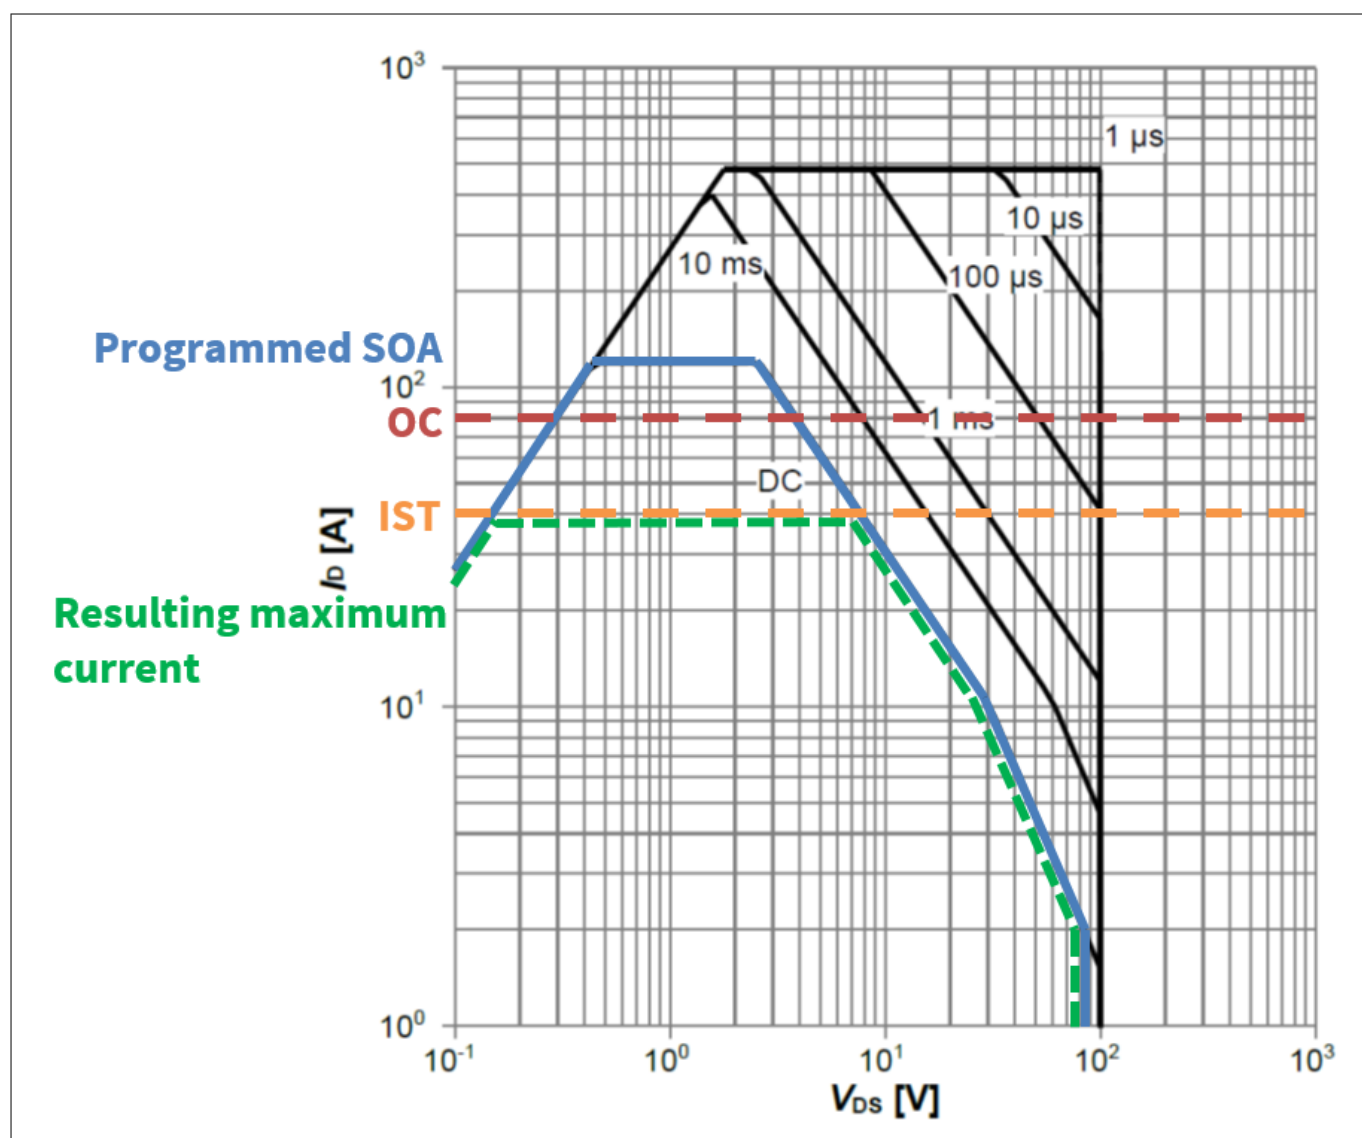

Figure 7 Safe operating area
- XDP710 starts charging the output capacitor by regulating the current through the FET according to the maximum allowed in the SOA. From Figure 7, the DC line allows an $I_{SOA} \cong 4.5$ A at 48 V.